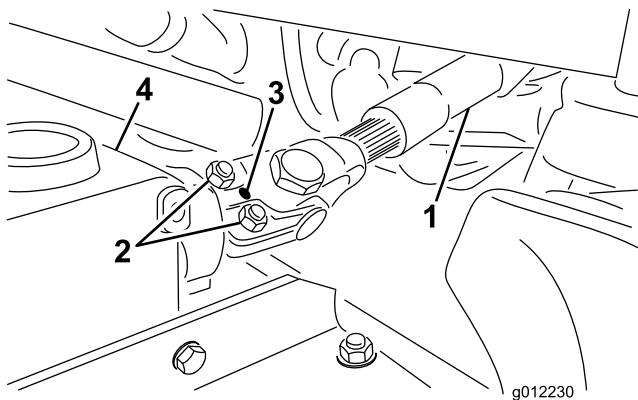

Figure 4
- A. Remove the roll pin from the end yoke and the gearbox shaft (Figure 4).
- B. Loosen the (2) capscrews and locknuts (Figure 4).
- C. Secure the end yoke of the PTO drive shaft to the gearbox shaft with the roll pin (Figure 4).
- D. Tighten the locknuts to secure the end yoke to the gearbox shaft (Figure 4). Torque the locknuts to 175 to 225 in-lb (20 to 25 N-m)